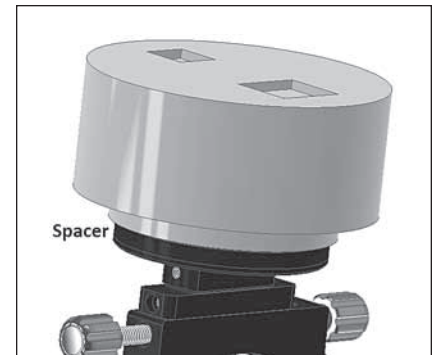

Figure 10. Adding a spacer to get optimum distance
- d. If the focus is further in you should add some spacing to the main camera side. If it is further out you will need to add a spacer between the guide platform and your guide camera, as depicted in **Figure 10**.